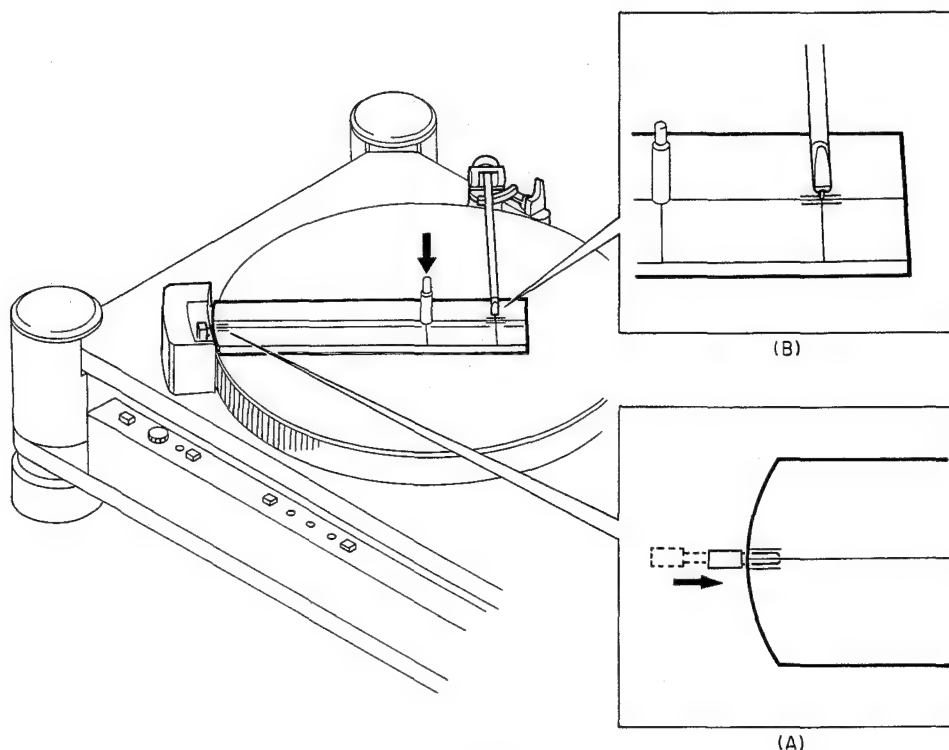

Fig. 5.8
- (1) Put a record on the turntable and press the Center Search Switch to conduct center search operation.
- (2) Turn the power OFF just before the Center Search Rod contacts with the Center Search Platter. Return the Sensor Arm to the Arm Rest by hand.
- (3) Remove the record and the Turntable Mat.
- (4) Press the Nominal Center Reset Button (Center Spindle).
- (5) Insert the Stylus Position Check Gauge (OD09024A) into the Center Spindle and place it so that the Rod is located between the scribed lines on the Gauge as shown in Fig. 5.8 (A).
- (6) Position the tip of the Stylus to the intersection of vertical and horizontal scribed lines as shown in Fig. 5.8 (B) and check whether it is located between the scribed short parallel lines on the Gauge.
- (7) Return the Sensor Arm and remove the Gauge.